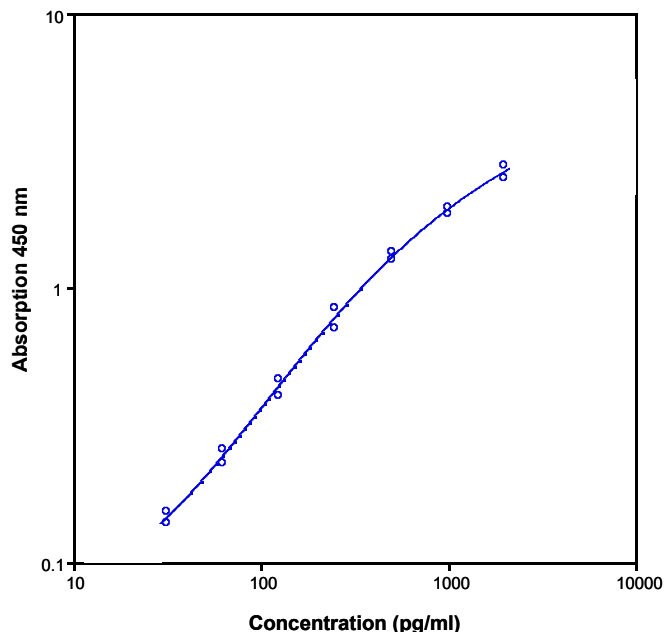

Fig. 8 Representative standard curve for Human Resistin ELISA Kit. Human Resistin was diluted in serial 2-fold steps in Assay Buffer (1x).
- A representative standard curve is shown in Figure 8.